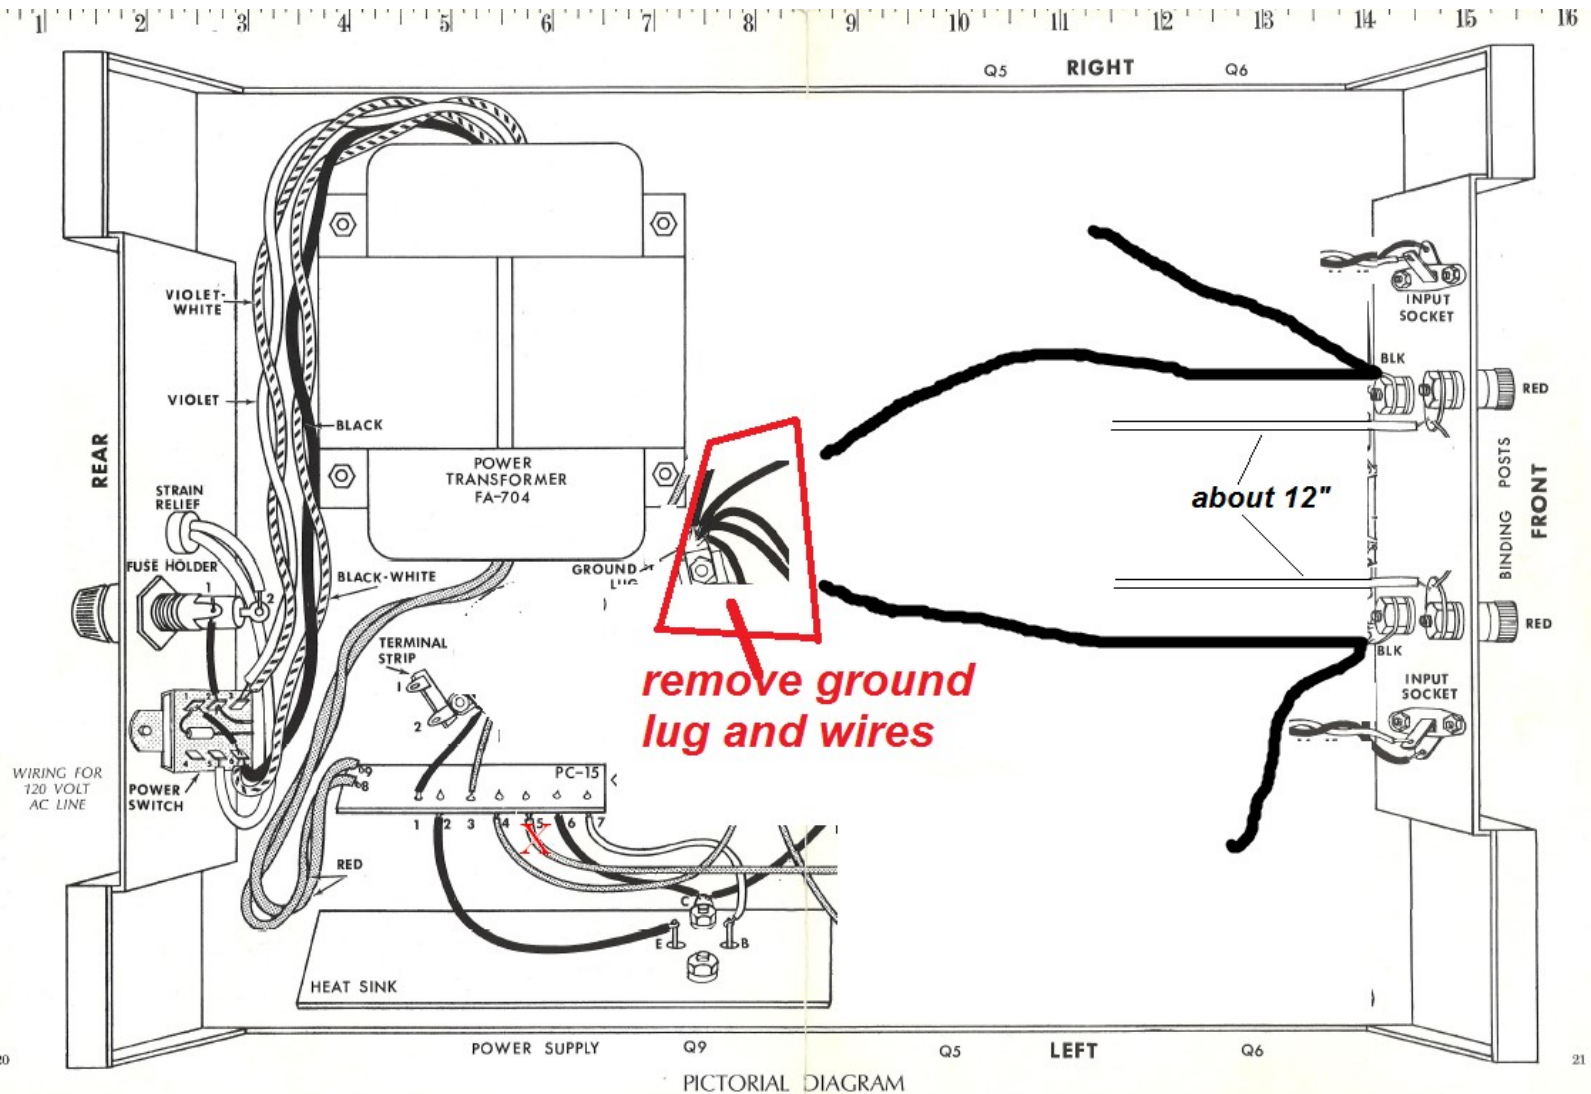
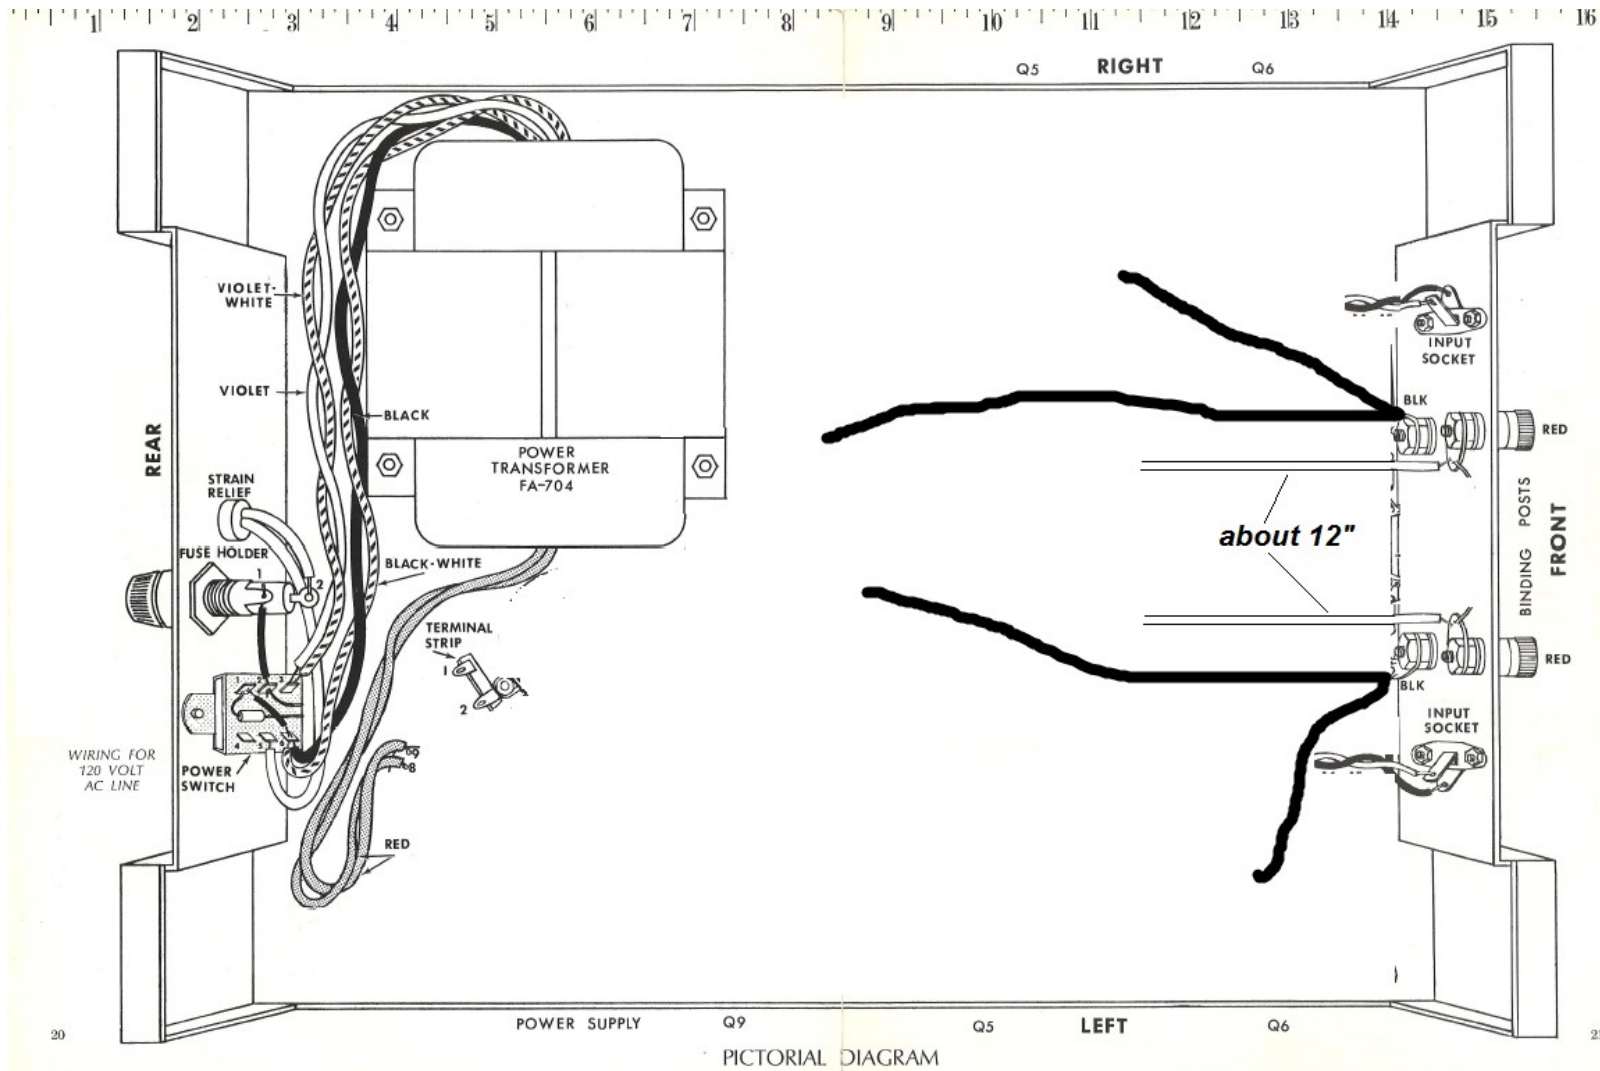

Figure 3-Amp modules removed
Figure 4-Amp and Power Supply Modules Removed
1. Remove the nut and bolt that hold the ground lug to the chassis. It is located between C12 and the transformer. Cut the wires near the lug. See Figure 3.
Please refer to Figure 3 and Figure 4. After you've completed the previous section, only the power supply (PC-15 and the related heatsink) remains in the chassis. Our goal here is to remove the power supply, leave the transformer wires long, and harvest the *power-supply* heat-sink for re-use.
Remove the rest of the wires and hardware until your amp looks like Figure 4. As shown, all the wiring from the power cord through to the secondary wiring of the transformer will remain intact. The only other wires that will be hanging on are: